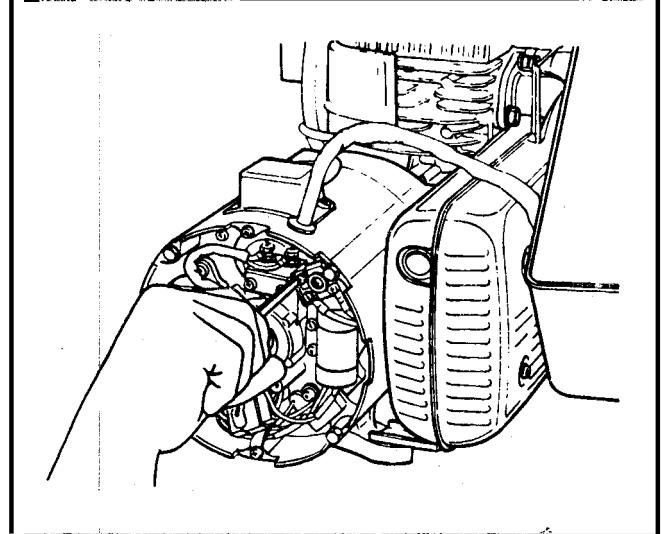

Figure 149
- Reconnect the AC output wires on the terminal block. Be sure to match the color coding. See Figure 149.